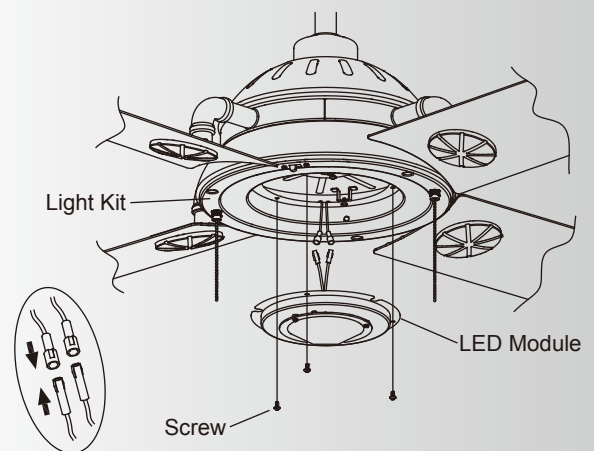

Fig. 20
Step 4. Hold the LED module close to the light kit. Connect the WHITE wires from the light kit and LED module by pushing the connectors together. Follow the same procedure with the BLACK wires. Align the holes on the LED module and light kit and securely tighten with three screws in hardware bag. (Fig. 20)